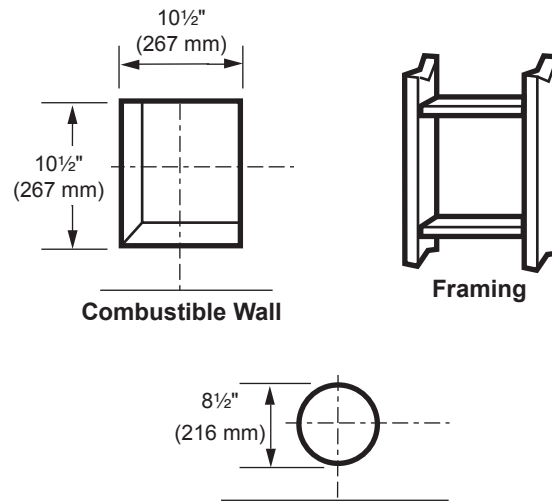

Figure 25 - Exterior Wall Framing Dimensions
- Combustible Exterior Walls:** Cut a 10½"H x 10½" W (267 x 267 mm) square hole through the exterior wall frame. *Figure 25*
- The center of the hole should align with the center line of the horizontal rigid vent pipe end. Allow 1/4" minimum rise per foot. *Figure 25*